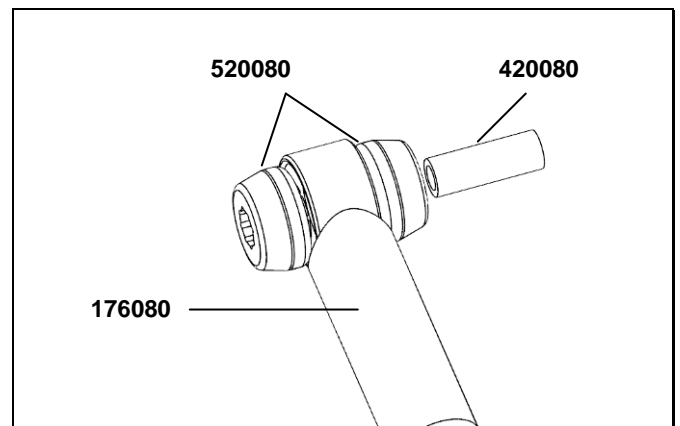

Figure 1
- Press the lubricated bushings into one end of a new Rancho suspension link (176080) as shown in figure 1.